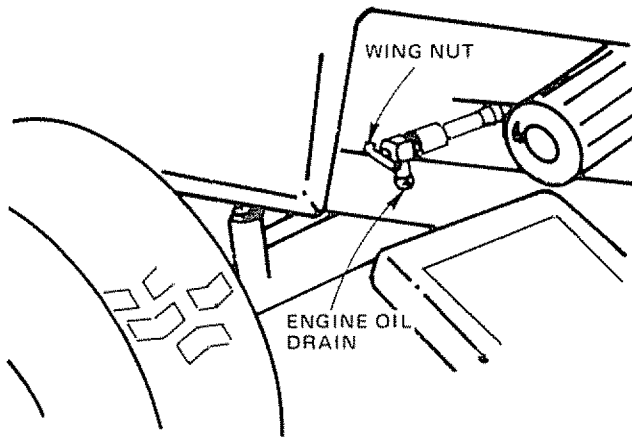

FIGURE 28
- a. Drain Oil with Engine warm. Loosen Oil Drain Plug Wing Nut (Fig. 28) and remove Dipstick. Catch Oil in a suitable container. Tighten Oil Drain Plug Wing Nut.